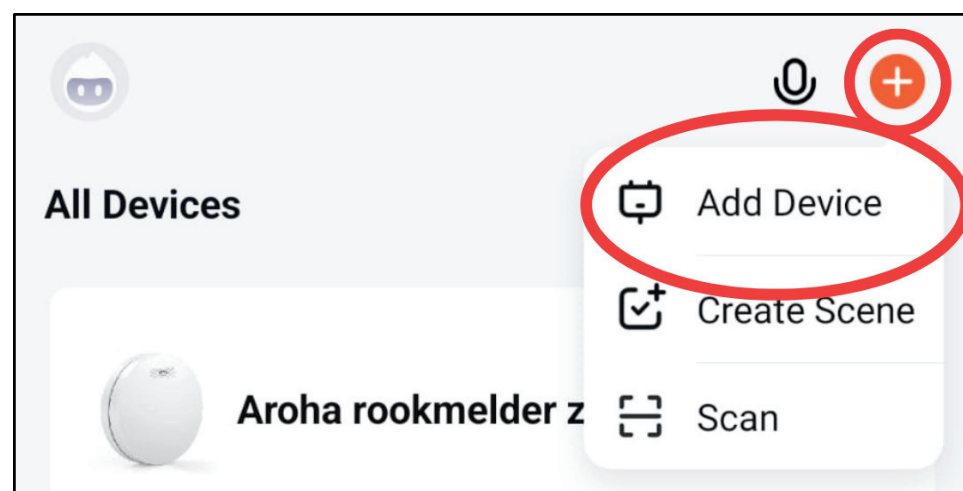

Figure 1: Add Device in app
**Step 5:** Click on the “+” in the top right corner of the app home screen. Then choose “**Add device**”, as you see in Figure 1. The app will now automatically look for devices that are in pairing mode. Follow the steps as described in the app.